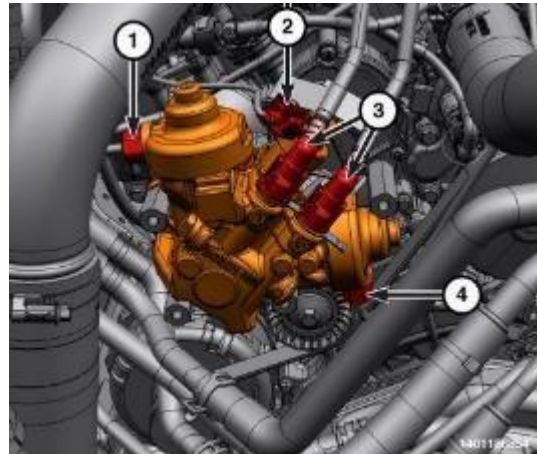

Figure 152 – Pump Connections
16. Disconnect the fuel injection pump electrical connector (2) (Figure 152).